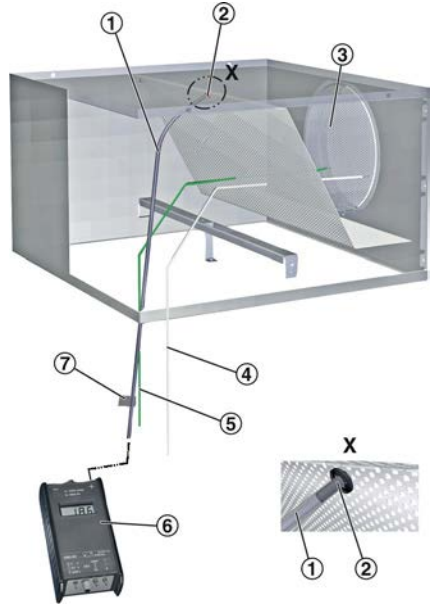

Fig. 17: Volume flow rate measurement
- ① Measuring tube
- ② Pressure tap
- ③ Damper blade for volume flow rate balancing
- ④ White cord for opening the damper blade
- ⑤ Green cord for closing the damper blade
- ⑥ Digital manometer
- ⑦ Text label indicating plenum box variant
3. ▶ Read the volume flow rate from the characteristic curve or calculate it; each AK-Uni plenum box comes with a characteristic curve. The plenum box variant is given on the text label (Fig. 17/7).